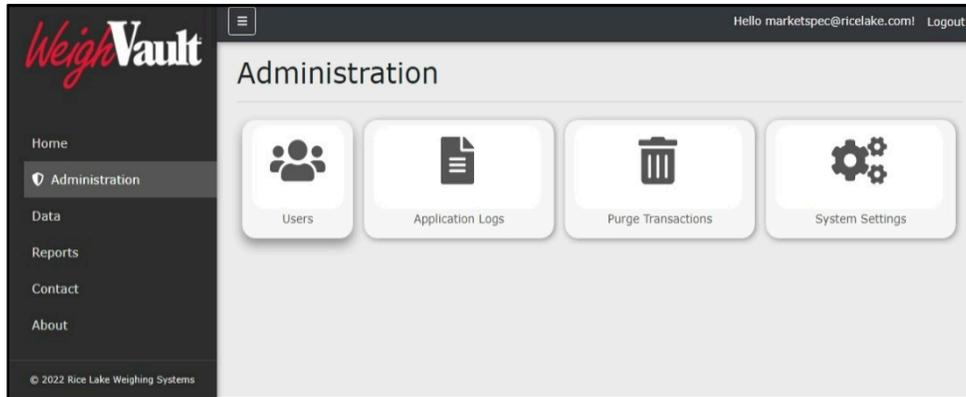

Figure 4-3. Administration Page
3. The Administration page displays (see Figure 4-3 on page 39).